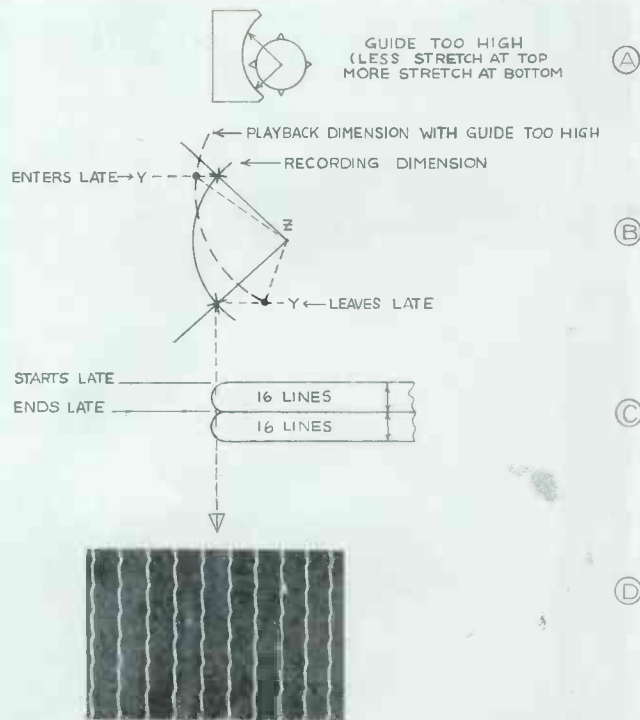

Fig. 13—Space distortion with vacuum guide too high.
(C) Shows effect on reproduced vertical lines in the video monitor. *Tape Vacuum Guide Too High (Fig. 13)*
(C) Each band of lines starts and leaves early, producing a scallop which is opposite to that of Fig. 13.